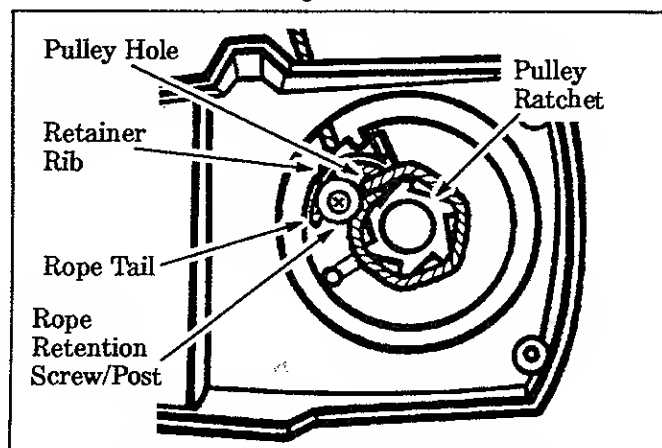

Figure 36
5. Remove the rope retention screw. Figure 36.
11. Guide the rope inside the pulley, then up through the pulley hole. Figure 36.
12. Wrap rope counterclockwise around the pulley ratchet and tuck loose end back under rope, leaving a 1 inch tail between the retainer rib and screw post. Figure 36. Pull rope tightly.